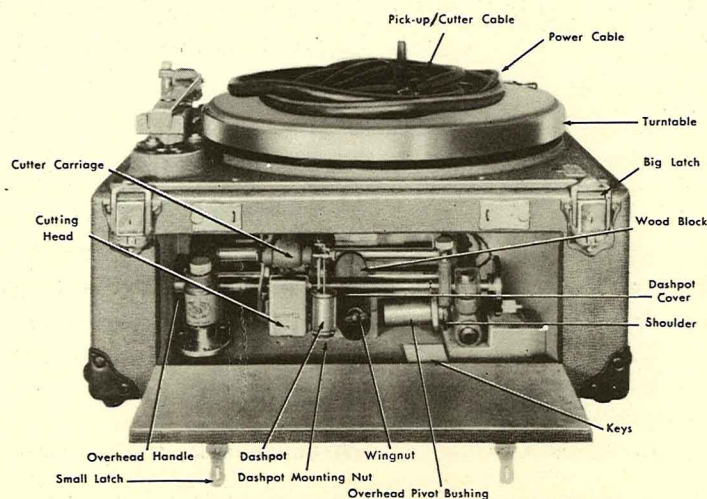

Figure 1. 6N Turntable Unit in portable carrying case.
(1) Raise lid to a vertical position and push to the right for its removal. (Lid will slip out of hinges.) Clear the cables.
(2) Remove packing from turntable bearing well. Open other crate and remove turntable from carton.
(3) Remove steel brackets at both sides of motor, see paragraph 2.
(4) Open the small latches of the compartment in one side of the case and remove the protective wadding. Remove packages containing the idler wheels, the pick-up head, the bottle of liquid for use in the dashpot, and the wrench used for tightening the overhead-cutter mechanism.
(5) Install idler wheels, see paragraph 3a.
(6) Loosen the wingnut so that wood block may be moved to a horizontal position (fig. 1). Carefully lift out the overhead-cutter mechanism from compartment.
(1) Turn the overhead pivot bushing (fig. 1) to a vertical position.